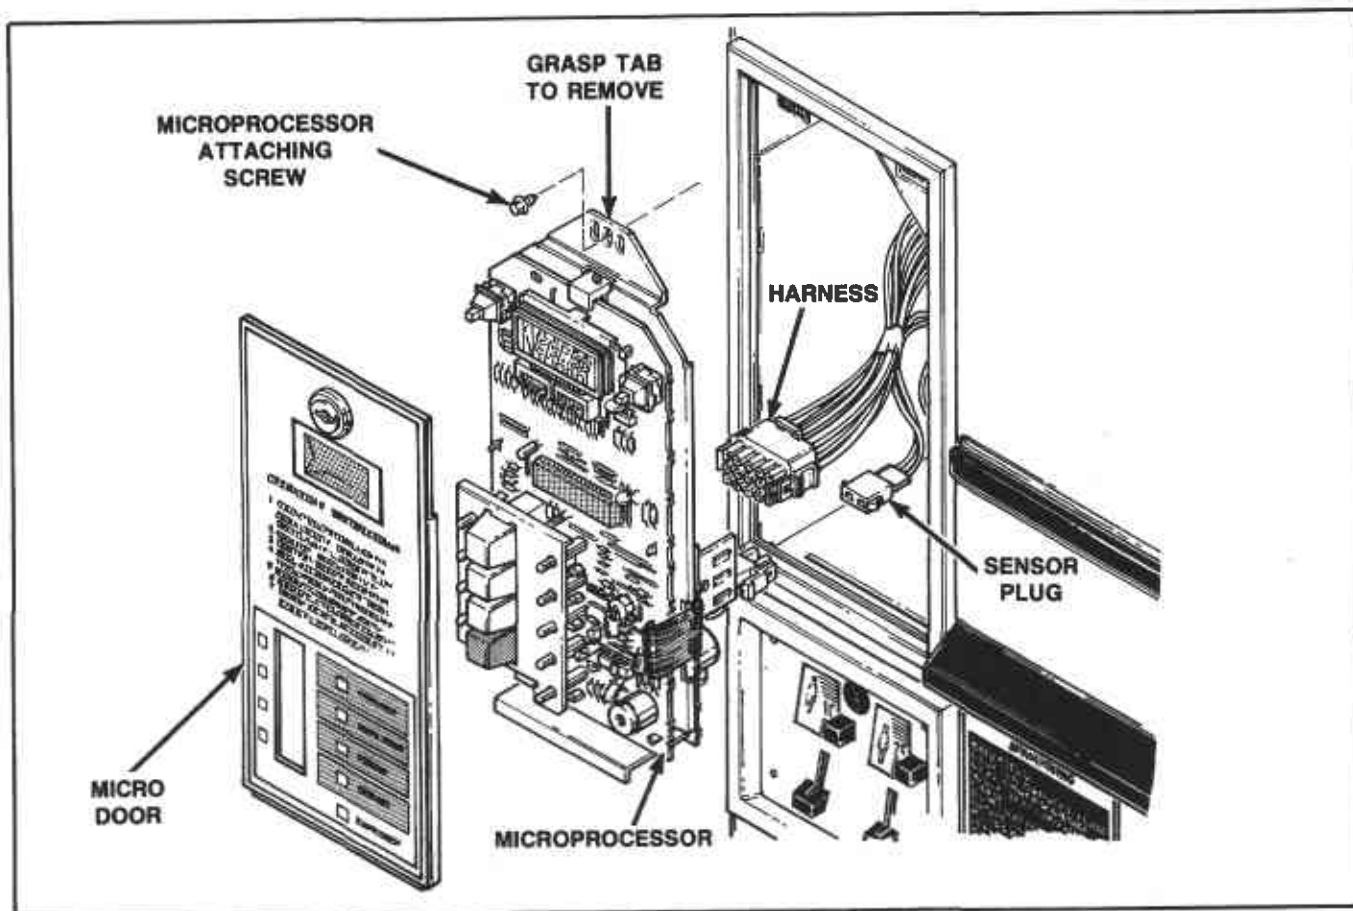

Figure 10
- Unlock and remove microprocessor door, *Figure 10*.
- Pull microprocessor out of housing and disconnect harness and sensor plugs, *Figure 10*.